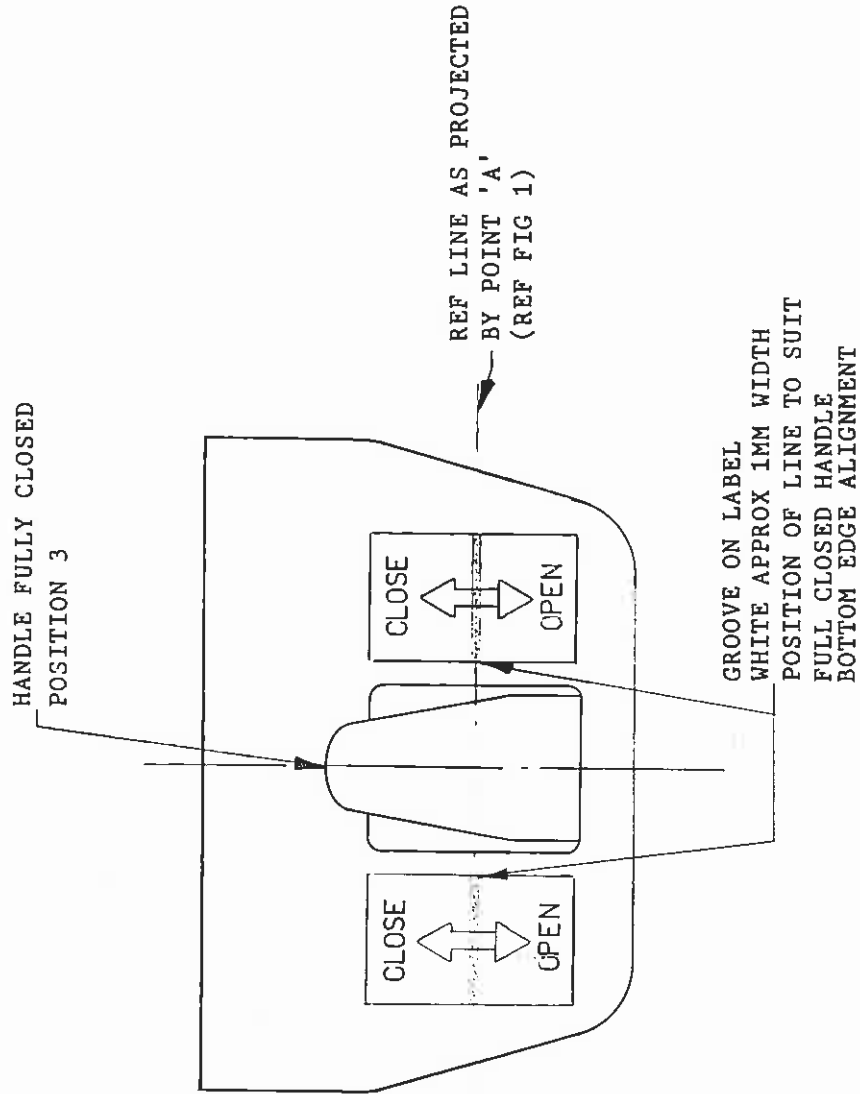

FIG 2
- (viii) When handle is fully closed, ie meets requirements of Fig. 1, mark a white line across both labels ref. Fig. 2 on line with handle lower surface (ie coincident with Point 'A' ref Fig. 1 & 2. The line may be obtained by running a hacksaw across both labels; a) deep enough to reveal white of label material or b) if base material is red, deep enough to hold white fill in wax, ie 0.25mm to 0.5mm.